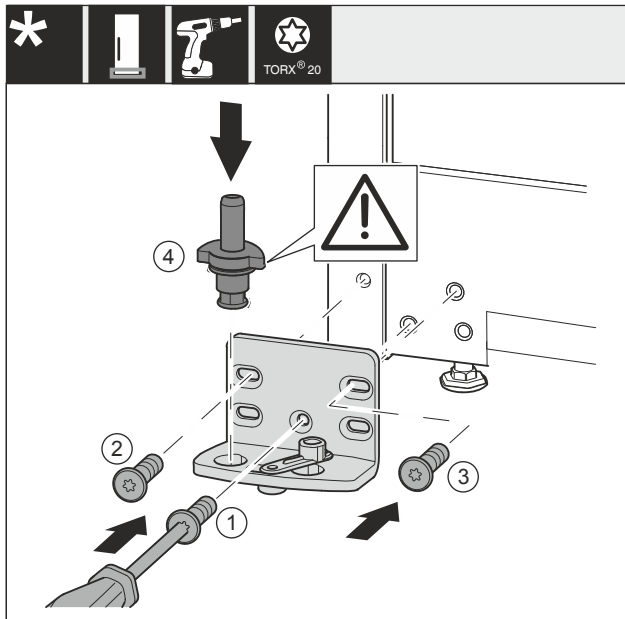

Fig. 38 \*
- Place the swap bearing block on the other side and use a screwdriver to screw it on. Start with the Fig. 38 (1) bottom middle.\*
- Tighten screw Fig. 38 (2) and Fig. 38 (3).\*
- Insert the bearing bolt Fig. 38 (4) completely. Ensure that the latching cam is pointing towards the rear.\*